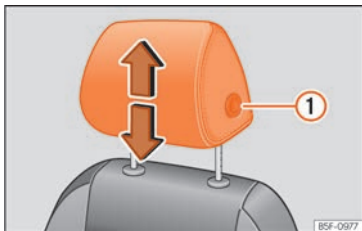
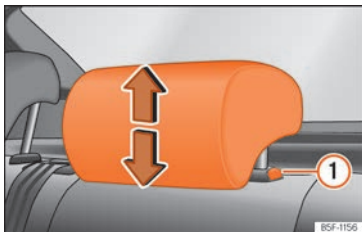

Fig. 126 Front seat: headrest adjustment.
Fig. 127 Rear headrest: headrest adjustment.
- Grab the sides of the headrests with both hands and push upwards to the desired position. To lower it, repeat the same action, pressing the ① »» Fig. 126 »» Fig. 127 button on the side.
- Press the side button »» Fig. 126 ① and remove the headrest.